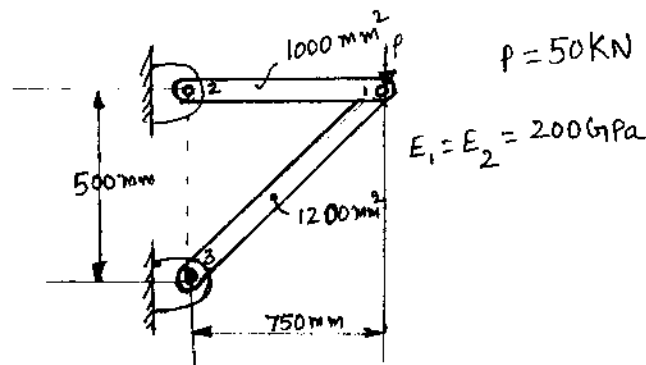

Fig.Q6(b)
b. For the pin-jointed configuration shown in Fig.Q6(b), formulate the stiffness matrix. Also determine nodal displacement and stress in each element. (12 Marks)